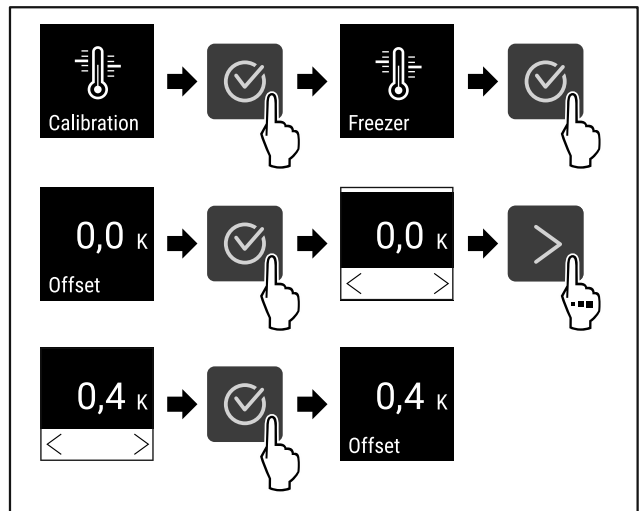

Fig. 96
- ▶ Complete steps (see Fig. 96).